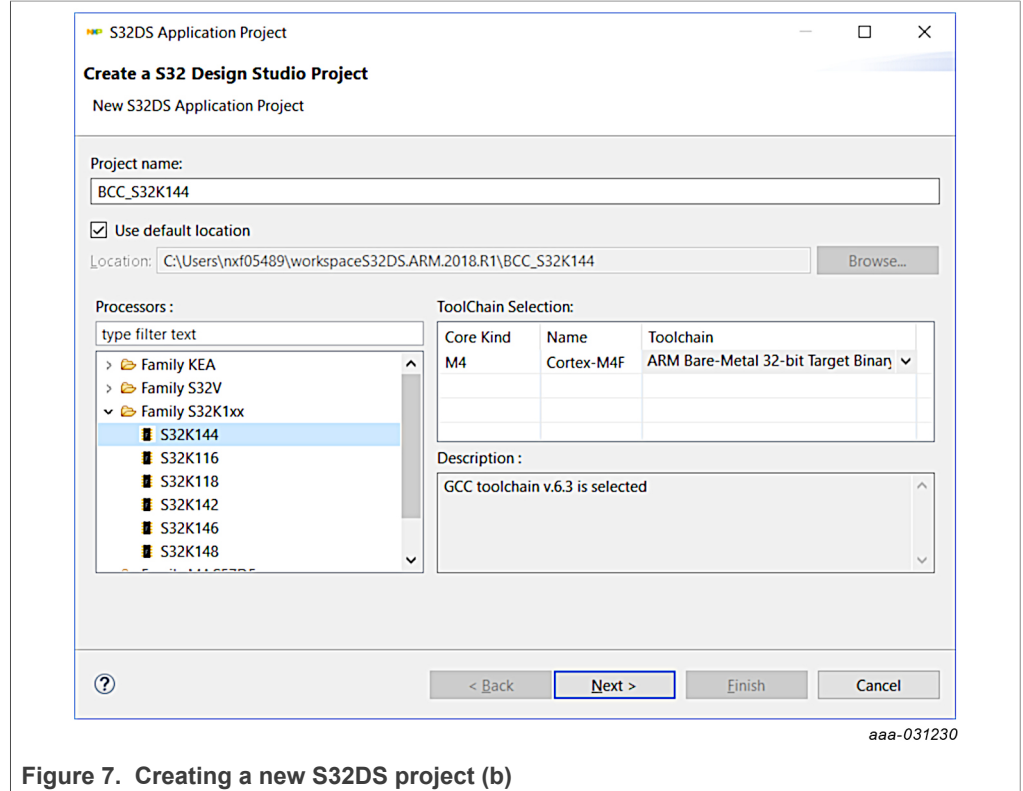

Figure 7. Creating a new S32DS project (b)
- 2. When the **S32DS Application Project** box opens, enter a project name into the text box, choose **S32K144** processor in the **Processors** tab and click **Next**. See Figure 7.